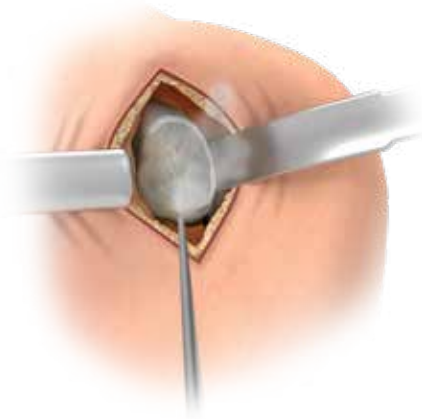

Figure 3
**Ensure to preserve glenoid osteophytes as the Signature ONE guide is designed to register off of them.** Prepare the anatomy and remove as much soft tissue in and around the glenoid as needed to allow for optimal Signature ONE Guide fit and placement. Specifically, remove the entire capsulolabral complex on the anterior and inferior rim of the glenoid, approximately 11 to 6 o'clock on a left shoulder (Figure 3). Proceed with additional capsule releases surrounding the anterior and inferior rim of the glenoid as necessary. When placed correctly, the guide will fit snug against the face and the anterior rim of the glenoid.